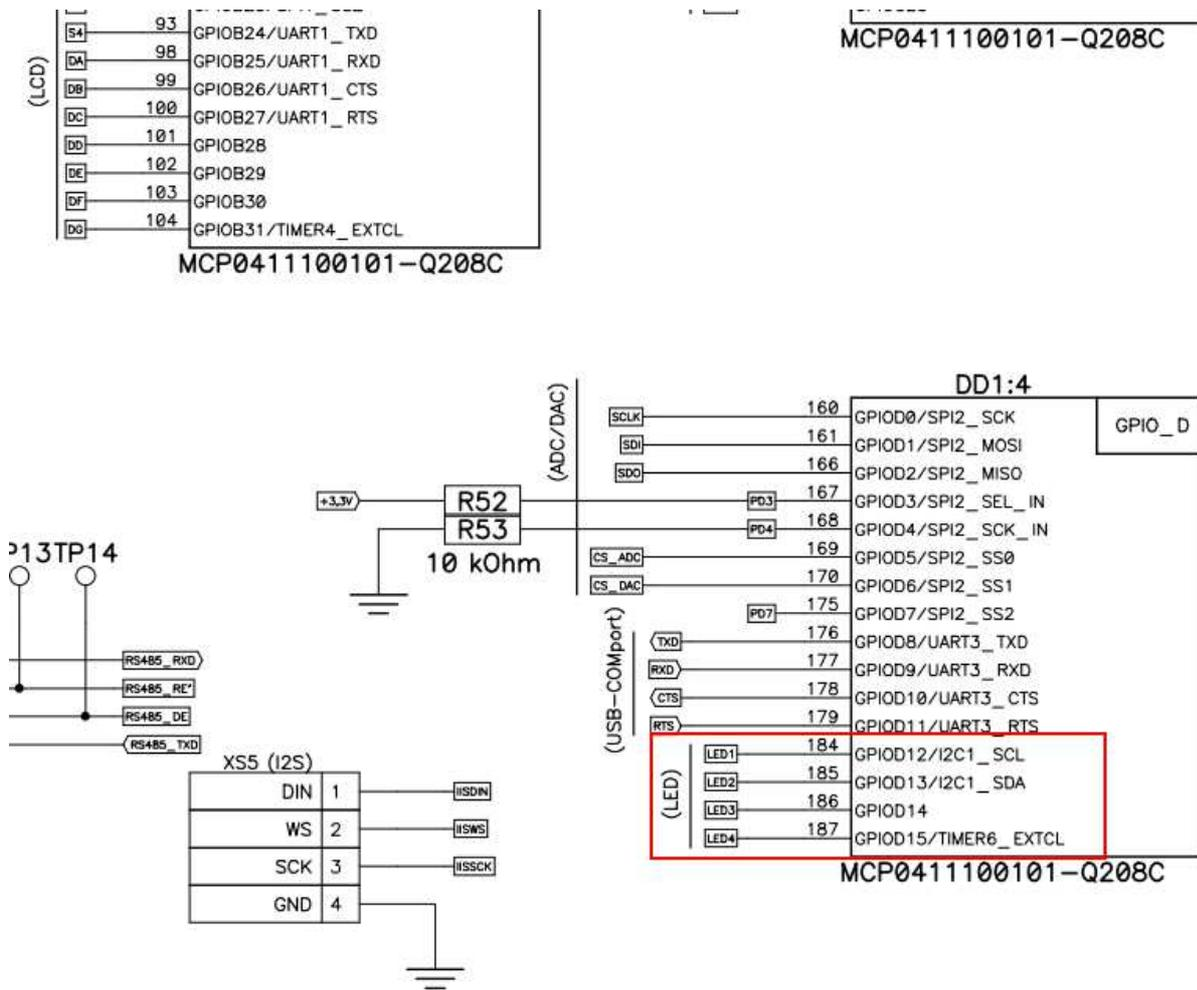

Fig 4. Abstract from technical documentation for LDM-MCp0411100101-Q208 Evolution (see p. 36 DS-QuickStart-MCp0411100101-Q208 Evolution.eng.pdf)
- in line #7 I/O settings for port D that is correspond to LEDs 1, 2 and 3 (in User Manual you can find a processor I/O list). In Fig. 4 you can find that LEDs on port D are connected to pins 12,13,14,15 so it si corresponded to hexadecimal. Combination uint32\_t - typedef unsigned int uint32\_t from library HDL51001\_ccf.h;
- in line #7 I/O that correspond to UART3 (in this board UART3 is connected to FTDI chip, that is used for USB-COM see Fig.4) is configured as alternative function;